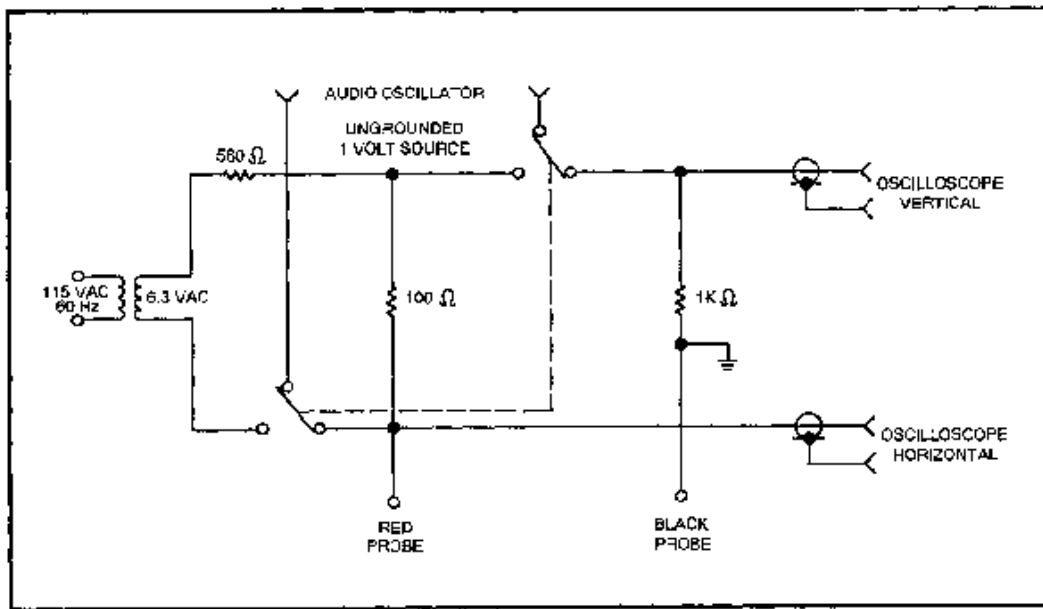

Figure 1-42.—Octopus schematic diagram (typical).
**THE OCTOPUS.**—The octopus is a small, homemade test set used with an oscilloscope to check electronic components *in circuit*. It can be made easily and cheaply using parts from the supply system. Figure 1-42 is a schematic of an octopus that uses either a 6.3-volt filament transformer or an audio oscillator for input power. The benefits of *in circuit* troubleshooting with an octopus are (1) reduced maintenance time, (2) less chance of damage from soldering-iron heat, and (3) a visual display of the component's condition.